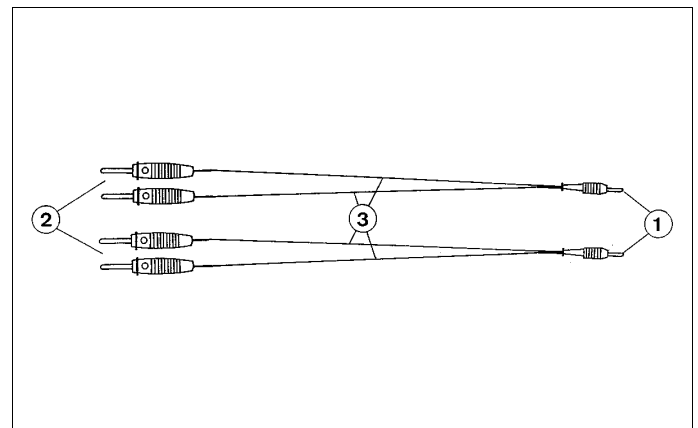

Fig. 4
2.4 Paar Anschlußkabel (388 06); s. Fig. 4
2.4 Pair of connecting cables (388 06); see Fig. 4